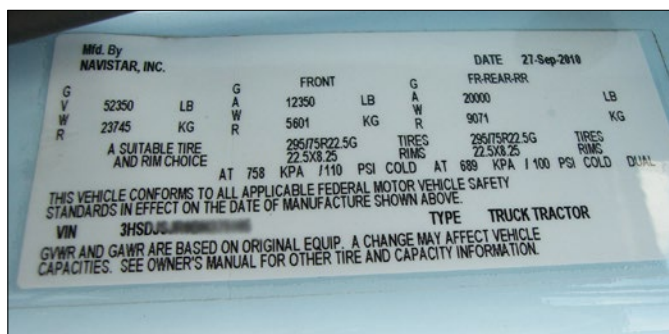

FIGURE 44: Truck Certification Label
When tires need to be replaced, do not guess what tire is right for the vehicle. For the answer, refer to the vehicle certification labels, such as Figure 44, which include tire and loading information, affixed to the vehicle in locations depending on vehicle type. These areas include: driver's door, hinge pillar or seating area; near the instrument panel; or other access door near the driver. The vehicle certification label identifies the size of the tires that were installed on the vehicle as original equipment (OE). The certification label also specifies the recommended cold inflation pressures for the tires on all positions and gross axle weight ratings and gross vehicle weight ratings. If the vehicle does not have a certification label, consult the vehicle owner's manual, vehicle manufacturer, or tire manufacturer. Also, check the vehicle owner's manual or service manual for any additional tire replacement recommendations. A tire dealer should also be familiar with these requirements and is an excellent resource. See Figures 10, 11, 12 and 13 in Chapter 2 for additional examples of vehicle certification labels.